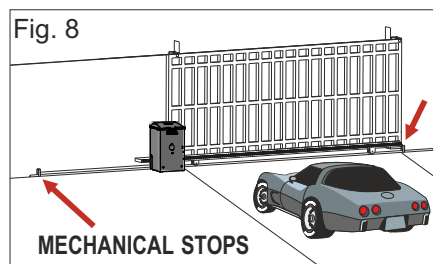

Fig. 8
- G** - The mechanical stops are always installed in order to avoid the possible derailment of the gate (Fig. 8)